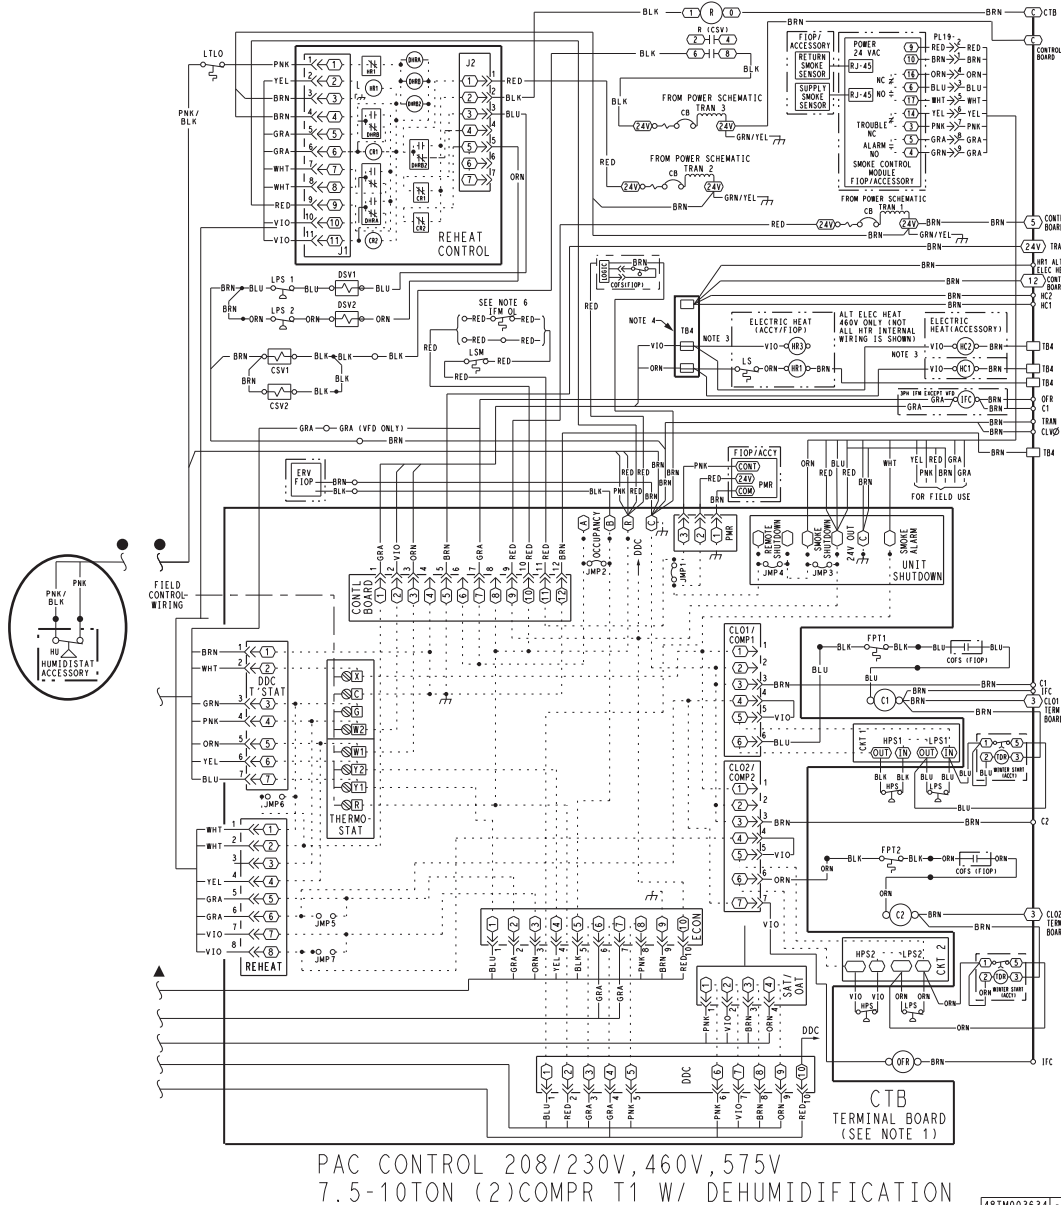

Fig. 62 — Typical Hot Gas Re-Heat Dehumidification System Humidistat Wiring RAS089-150
3. Use wire nuts to connect humidistat cable to two PINK leads in the low-voltage wiring as shown in Fig. 62. Refer to the instructions for the field-supplied humidistat for more information.